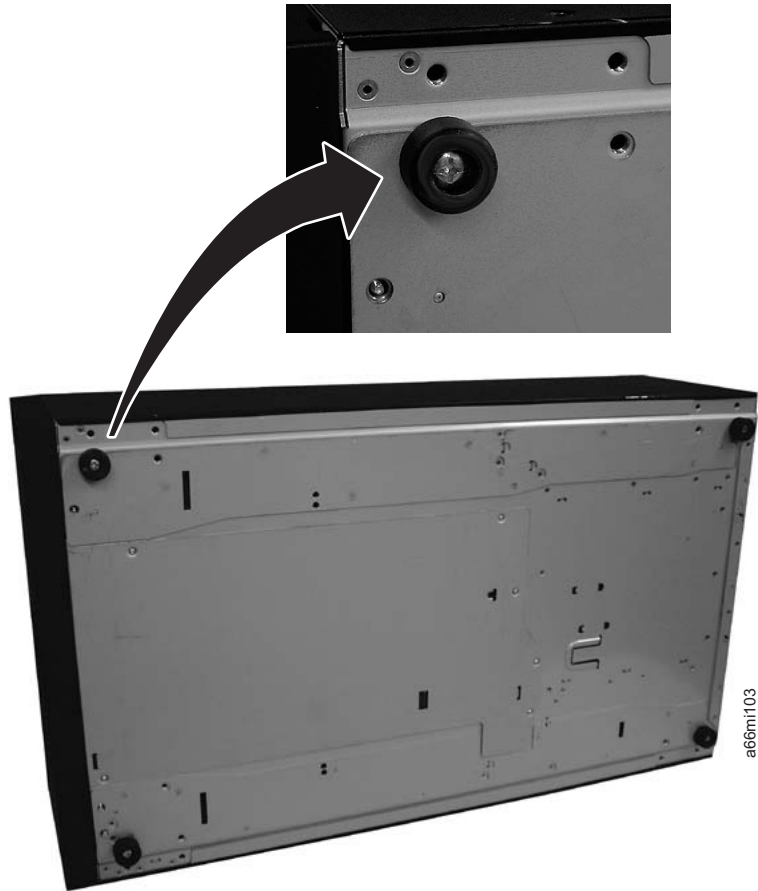

Figure 8-81. Foot pad Locations
2. Using a #2 Phillips screwdriver, install the foot pads on the bottom of the library chassis. See Figure 8-81 for foot pad locations.